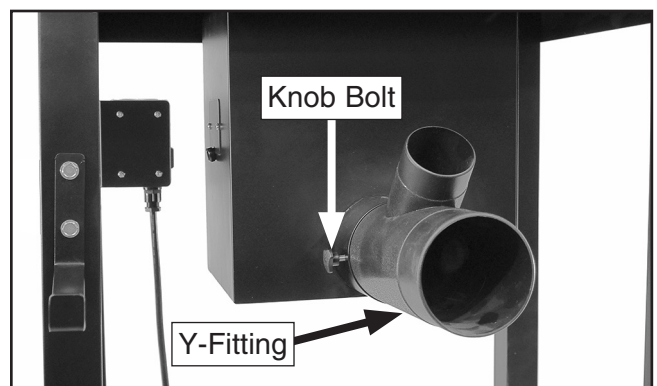

Figure 31. Y-fitting attached to dust port.
25. Install Y-fitting (see **Figure 31**) on dust port and secure with (1) $\frac{1}{4}$ "-20 x $\frac{1}{2}$ " knob bolt.